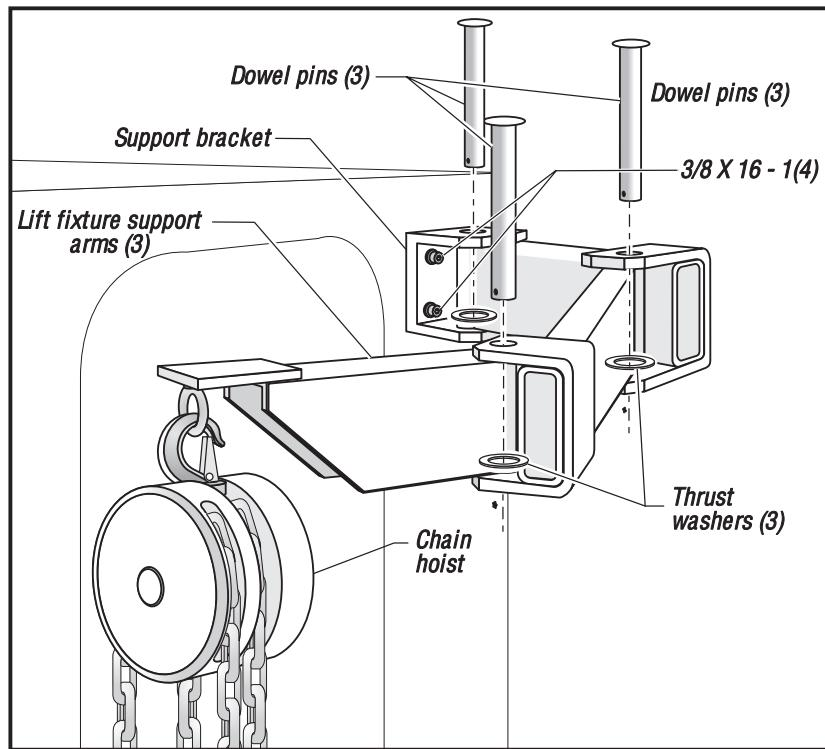

Figure 7-2. Transmission removal fixture and chain hoist.
15. Assemble the support arms (3) of the transmission removal fixture by placing a thrust washer at the bottom of each joint and inserting the dowel pins from the top side (Figure 7-2). Grease the joints to ensure smooth arm movement.